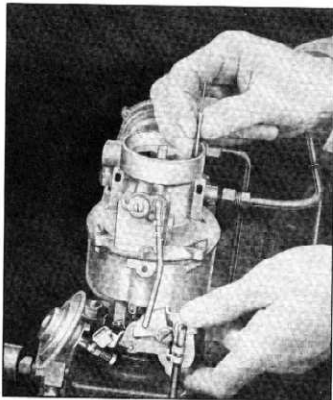

Fig. 107—Unloader Adjustment
2. Using gauge J-5120, see if large end of gauge (.166") just slides freely between lower edge of choke valve and bore of carburetor (fig. 107).